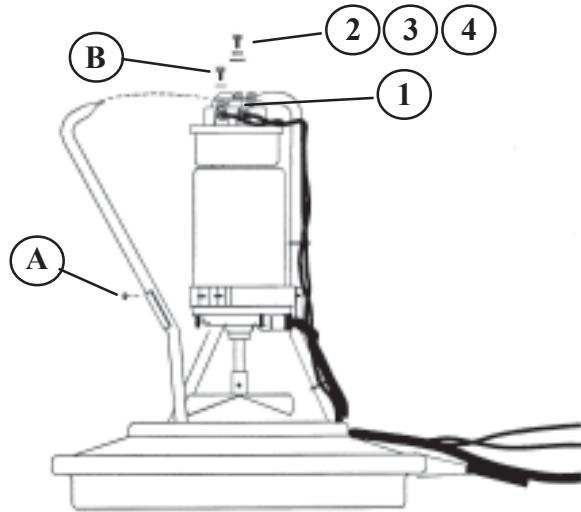

Figure 3
- A.** Place the aerator on a flat surface with the float down. Remove one of the support arms from your aerator by removing the two 1/4" flange nuts (Item A) at the brass mounting ring and the 5/16" bolt, washer and nut (Item B) from the support arm brace. Tip the arm outward. (See Figure 3)